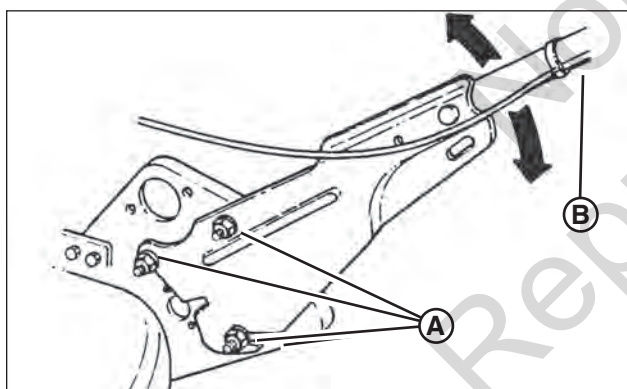

Figure 5: Adjusting the handle height
1. Loosen the lower nuts (**A**, **Figure 5**) on each lower handle.